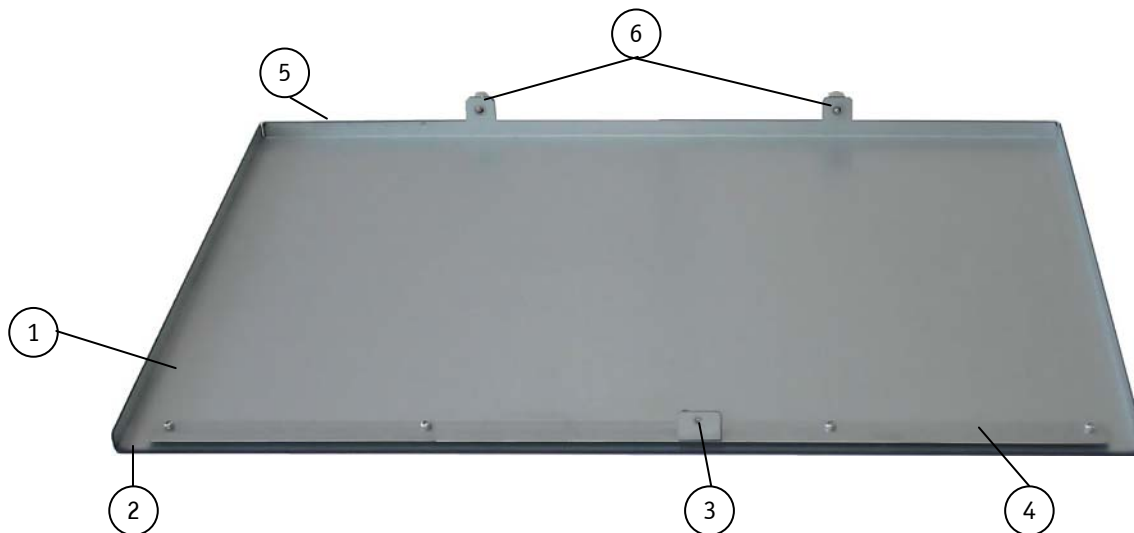
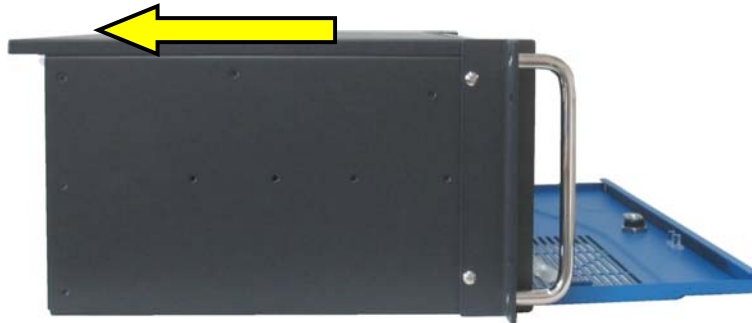

Fig. 22: Inside of the cover with fixing brackets
Fig. 26: Pull out the cover centering and fixing brackets from the retaining bracket of the chassis.
The cover will be fixed to the chassis using two fixing brackets at the front side of the cover (Fig. 22, pos.3 and pos. 4), two fixing brackets with captive knurled screws at the rear side of the cover (Fig. 22, pos.6) and the cover fastening screw (Fig. 9, pos. 13) at the front side of the KISS 4U Short V2 platform.
When closing the cover, make sure that the fixing latches (Fig. 22, pos.3 and pos. 4) are inserted properly into the corresponding retaining bracket of the chassis (Fig. 6, pos. 5). The centering latch (Fig. 22, pos. 3) and the front cover fastening screw (Fig. 9, pos. 13) secure the cover on the front side.
3. Pull the cover out a little bit (Fig. 26) to release the cover centering and fixing latches (Fig. 22, pos.3 and pos. 4) from the retaining bracket of the chassis (see Fig. 6, pos. 5).